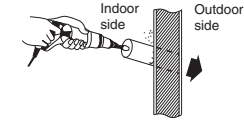

Fig. 3-77
- (4) Using a sabre saw, key hole saw or hole-cutting drill attachment, cut a hole in the wall. See Table 4 and Fig. 3-77.